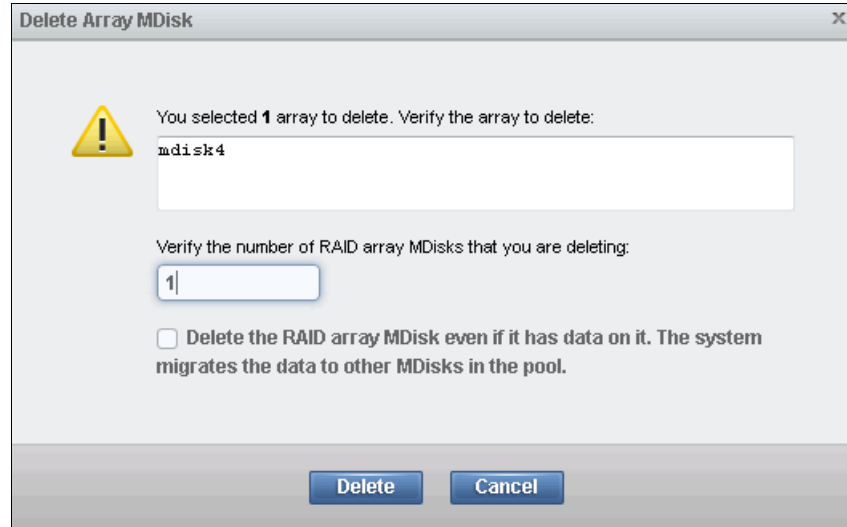

Figure 7-47 MDisk delete confirmation
- ii. A confirmation is required by entering the correct number of MDisks to be deleted, as shown in Figure 7-47. You must confirm the number of MDisks that you want to delete. If there is data on the MDisk, it can be deleted only by selecting the **Delete the RAID array MDisk even if it has data on it** option.